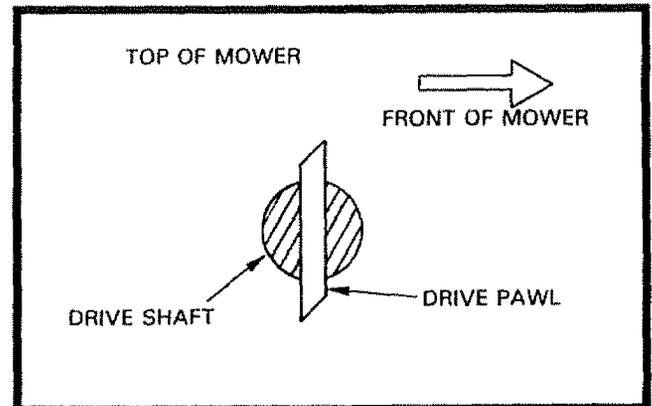

FIG. 15
- If you remove the Drive Pinion and Drive Pawl, refer to fig. 15 for correct assembly of Drive Pawl.